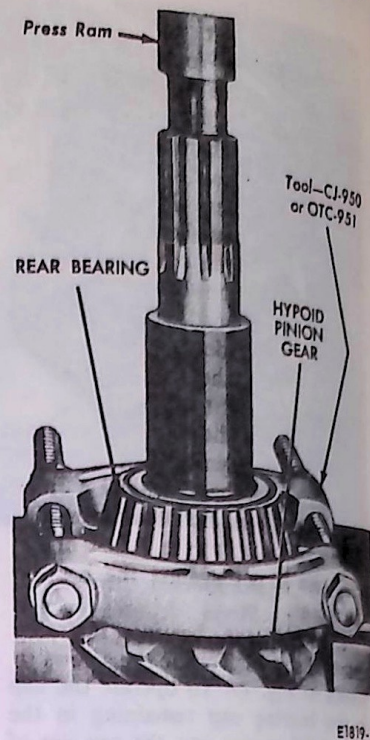

FIG. 20 Removing Hypoid Pinion Rear Bearing
2. Remove the rear bearing from the pinion shaft as shown in Fig. 20.